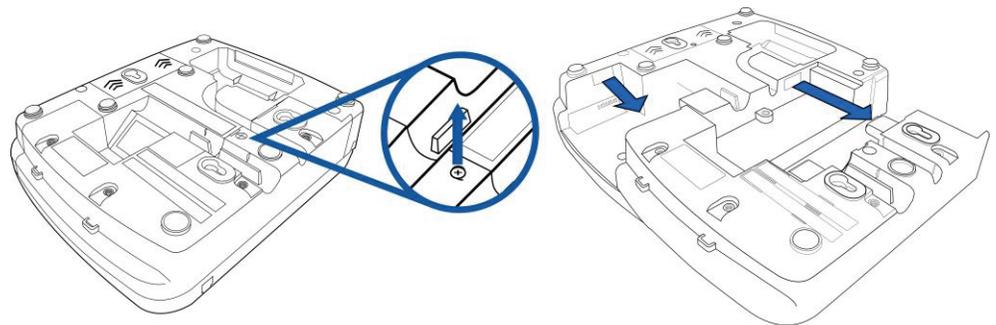

Figure 5 Removing the old I/O Module
- 1 Loosen the module retaining screw on the bottom of the terminal (Figure 5) until the old module can slide out.